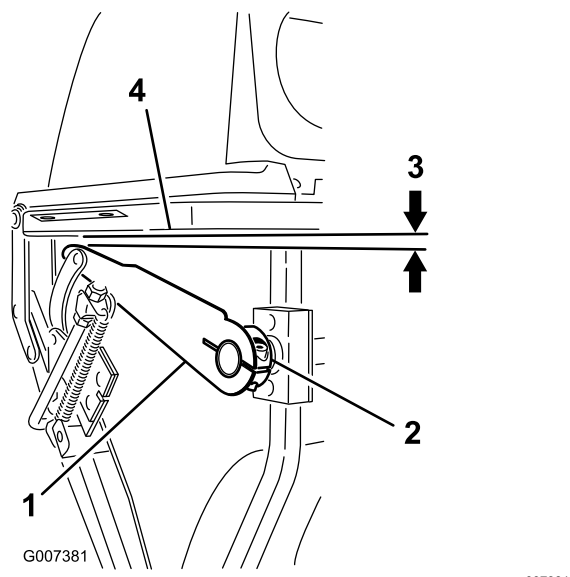

Figure 51
5. To make the distances equal, loosen the Allen-head bolt on the hub of the right bellcrank (Figure 51).